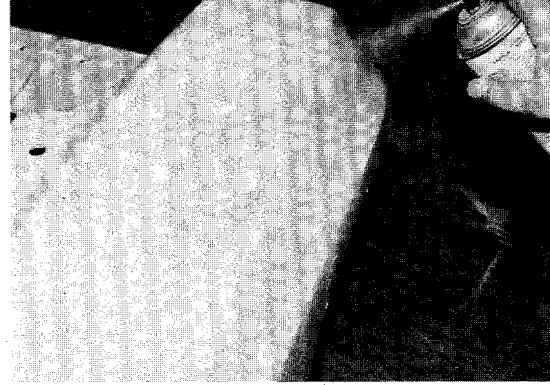

Figure 14-18
13. Paint the repaired area with matching spray paint, available from CLUB CAR. Hold the can about 12-14 inches away from repaired surface and coat with light, even strokes (Figure 14-18).